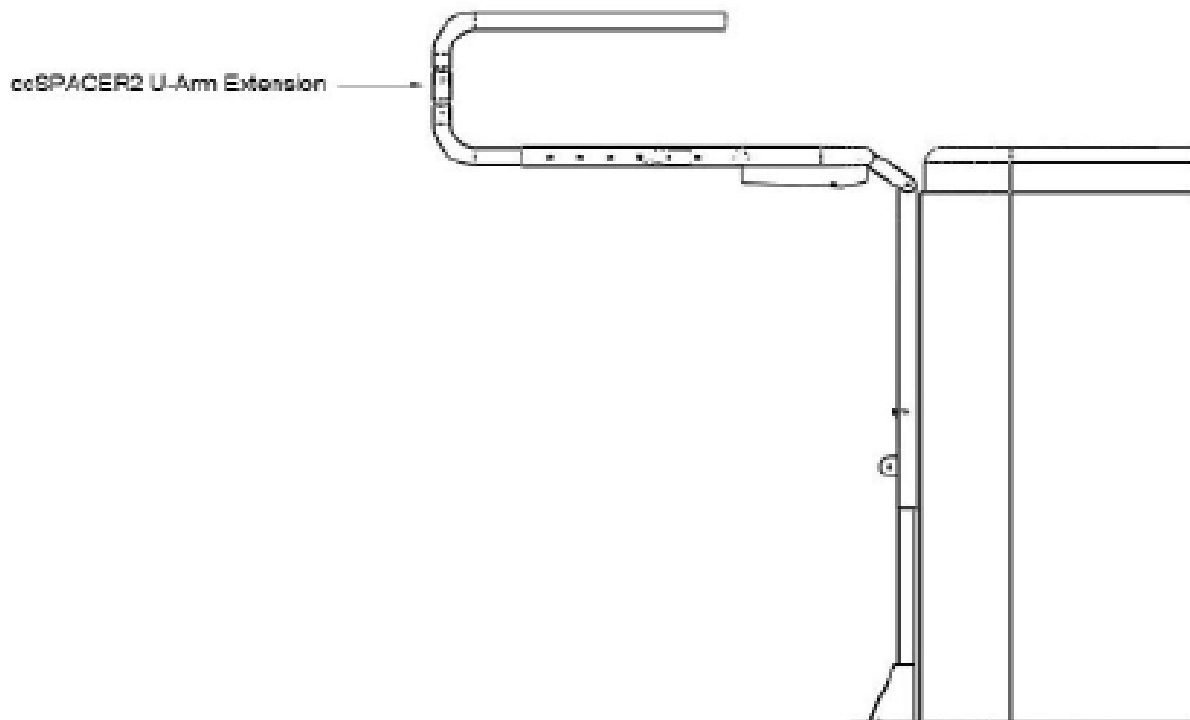

Figure 9
- 9 Swing the U-Arms up so that they are parallel to the ground. Raise the Main Unit so that the bottom tube of the U-Arms is level with the top of the spa without the cover. See Fig 9.